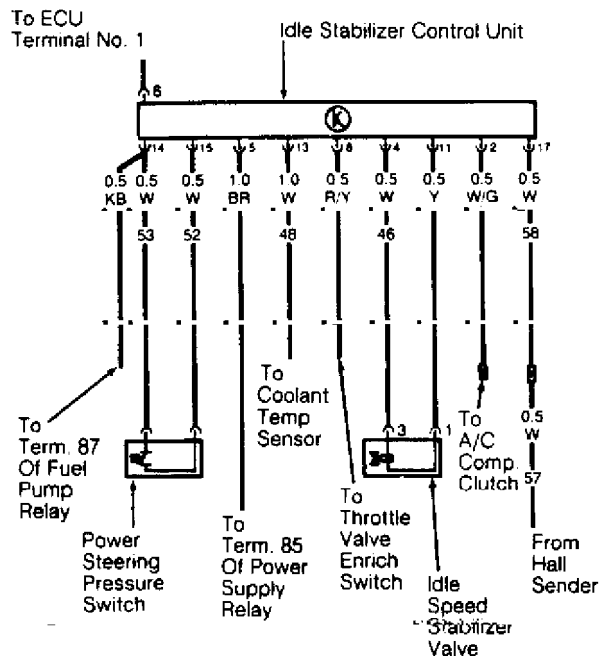

Fig. 9: Vanagon Idle Stabilization System Control Unit
2) If milliamp reading does not increase, turn ignition coil off. Connect LED test light between terminal No. 2 and terminal No. 5 of idle stabilization control unit connector. See Fig. 9. Start engine and cycle A/C switch on and off.